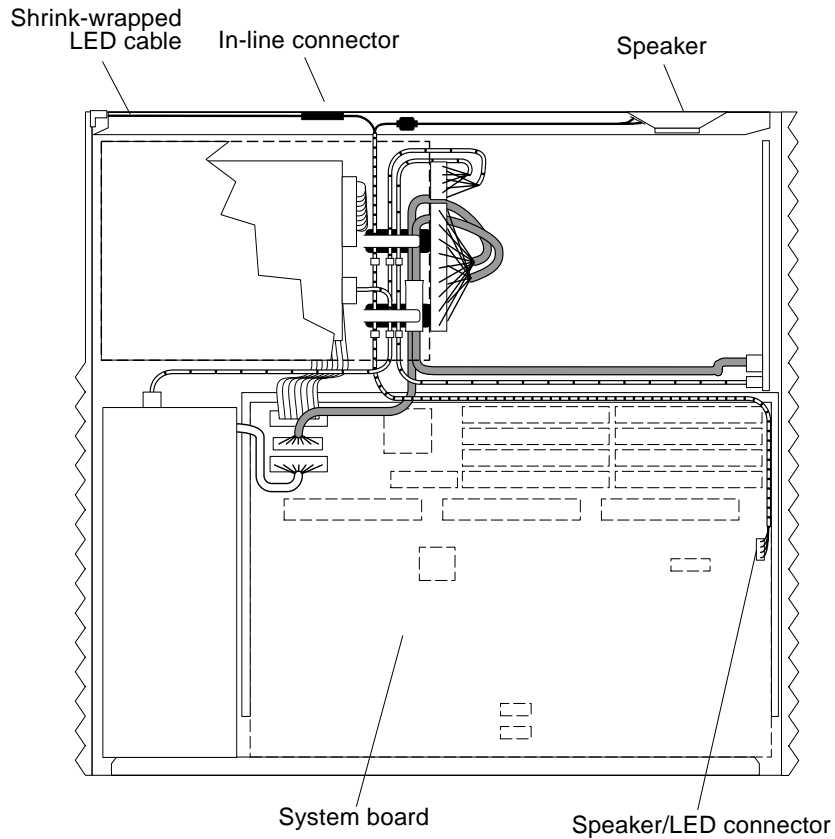

FIGURE 8-7 Speaker/LED Cable
5. Disconnect the shrink-wrapped section of the LED cable from the in-line connector (FIGURE 8-7).
3. **Route the LED wires along the top front edge of the chassis and connect them to the Speaker/LED in-line connector** (FIGURE 8-7).